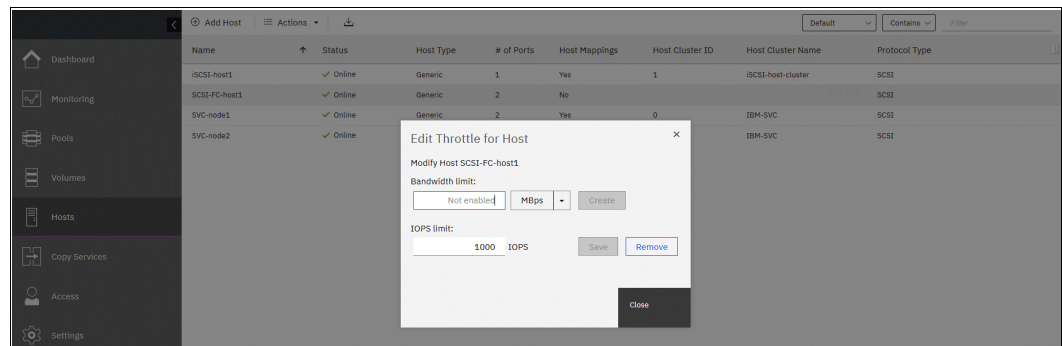

Figure 7-50 Edit Throttle for Host dialogue
2. In the Edit Throttle for Host dialogue box (see Figure 7-50), specify the **IOPS limit**, **Bandwidth limit**, or both. Click **Create** to create a host throttle, change the throttle limit and click **Save** to edit a throttle, or click **Remove** to delete a host throttle.